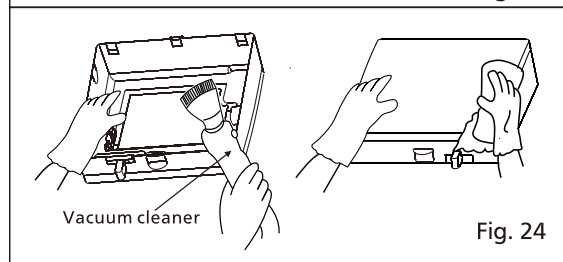

Fig. 24
2. Remove dust and dirt inside the panel by using a vacuum cleaner. Clean the surface of the panel with non-abrasive kitchen detergent and wipe dry with clean cloth. (Please do not immerse panel in water while cleaning). (Fig.24)